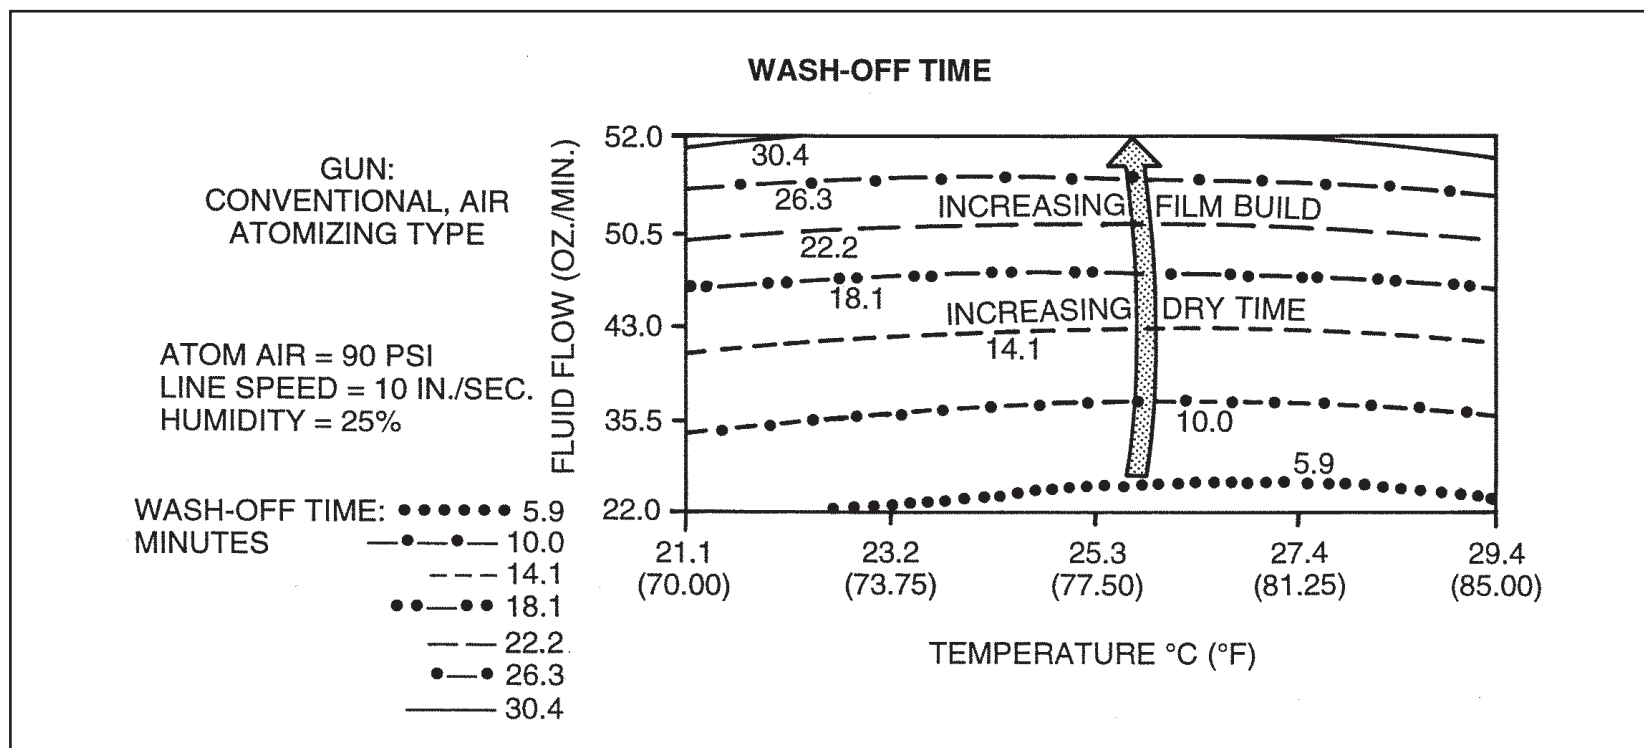

Figure A-10
- Air temperature has no effect on wash-off time or film build. (See Figure A-10.)